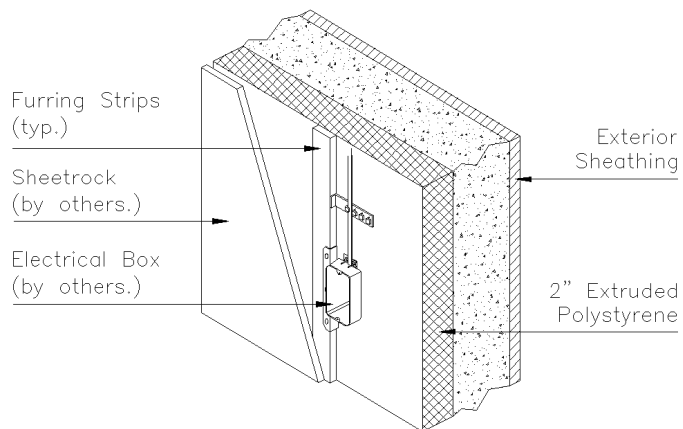

Figure 13
- Full size interior electrical boxes are installed by cutting the polystyrene insulation with a hot knife, a rotor zip or just an utility knife. This process is much quicker for the electrical trade than chipping concrete (figure 13).